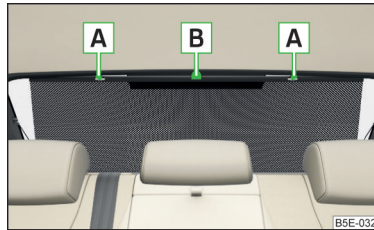

Fig. 65 Sun screen
- Pull the sun screen on the handle **B** » Fig. 65 and hang it in the holder **A**.
- Remove the sun blind from the handle **B** » Fig. 65 out of the bracket and hold it in such a way that it can roll up slowly into the housing without being damaged.